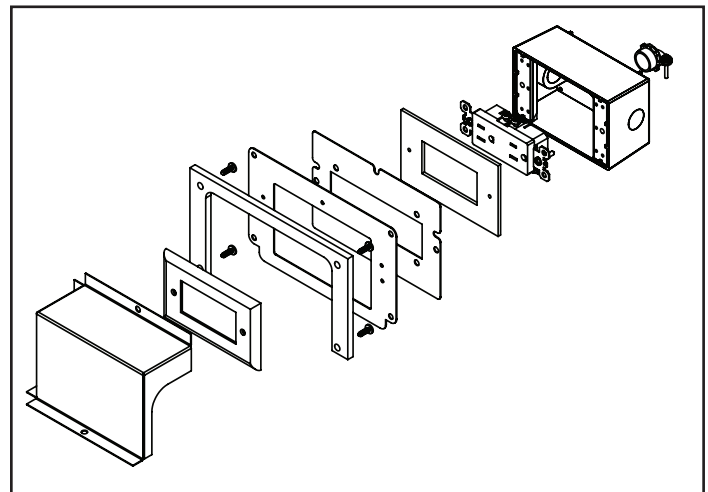

Figure 5.2. Junction Box
- Disassemble junction box. See Figure 5.2